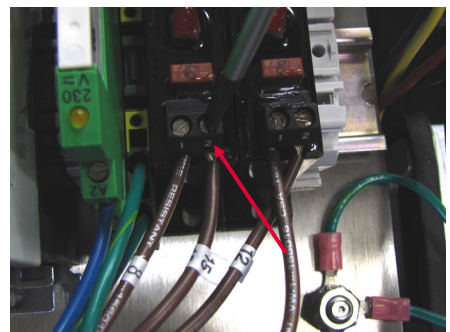

Figure 12
12. Use a small flat head screwdriver to loosen the screw that holds the #15 brown wire on the high voltage DIN rail. Pull the wire out of the connector. Refer to Figure 12.